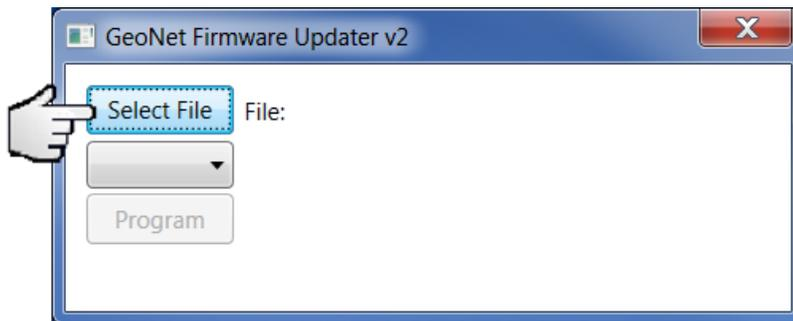

Figure 32 - Click on “Select File”
13) Click “Select File” (Figure 32).